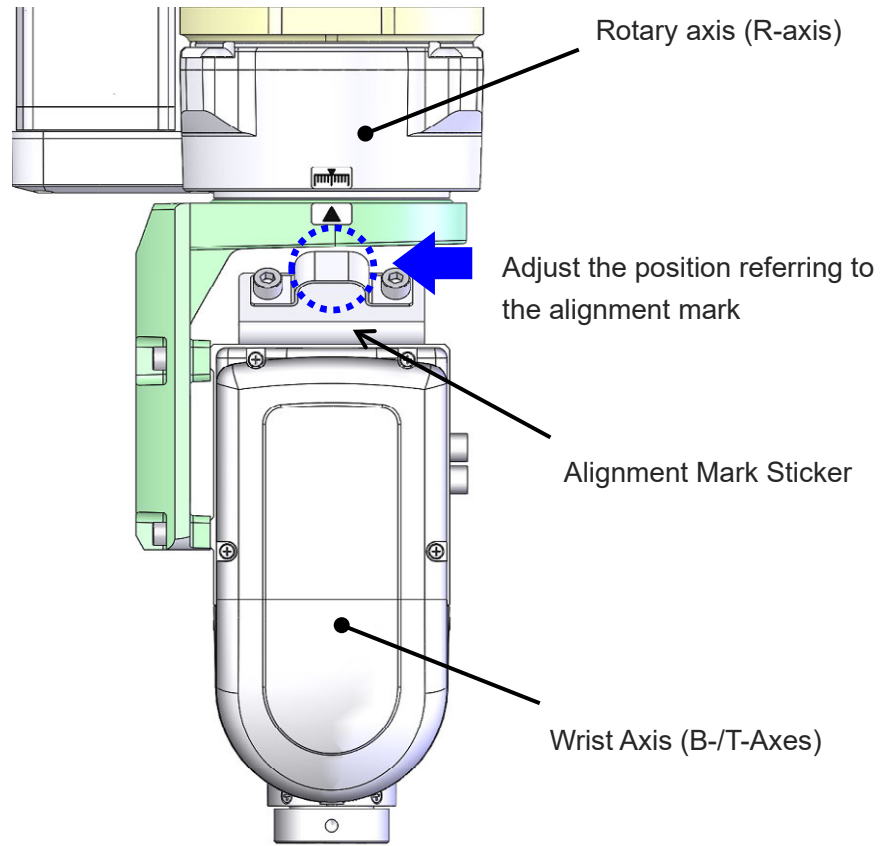
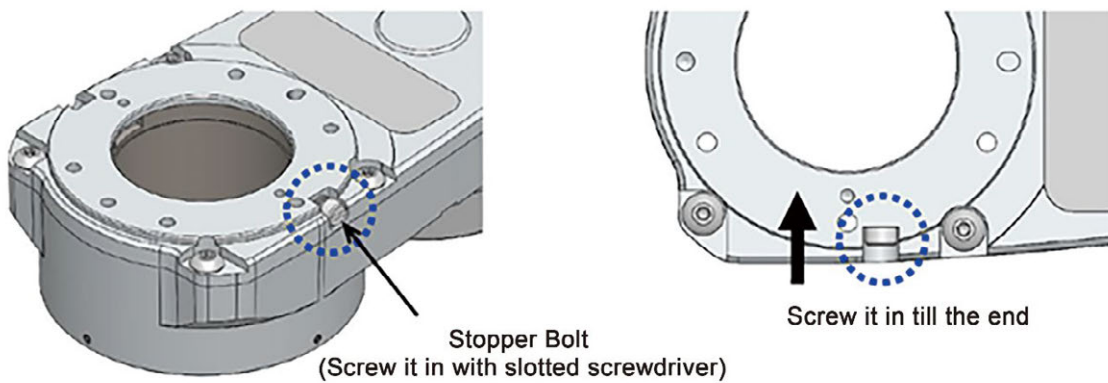

Figure 8.3-10 R-Axis Standard Posture
Figure 8.3-11 R-axis Stopper Bolt Attached
- 4) Conduct emergency stop and brake release, and approach near the standard posture of the R-axis. Refer to [Figure 8.3-10] for the standard posture of the R-axis. Attach the stopper bolt at the standard posture [Figure 8.3-11]. With the stopper bolt being applied, conduct the brake lock and release the emergency stop, and click in the confirmation window.